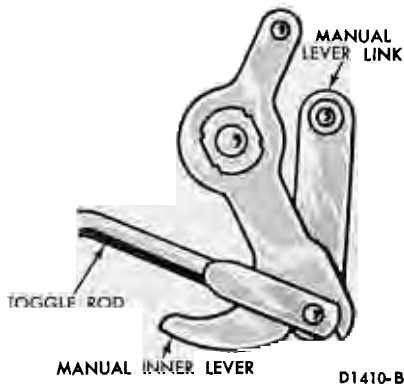

FIG. 62—Inner Manual Lever Location
11. Position the inner manual lever behind the manual lever link, with the cam of the lever contacting the lower link pin (Fig. 62).